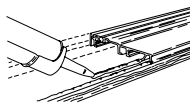

Fig. 4
4. Put a generous bead of caulk along the outside edge of the sub-floor and another generous bead of caulk 1/2" in from the first (Fig. 4). Be sure caulking beads seal the threshold and sub-floor to prevent the infiltration of moisture.